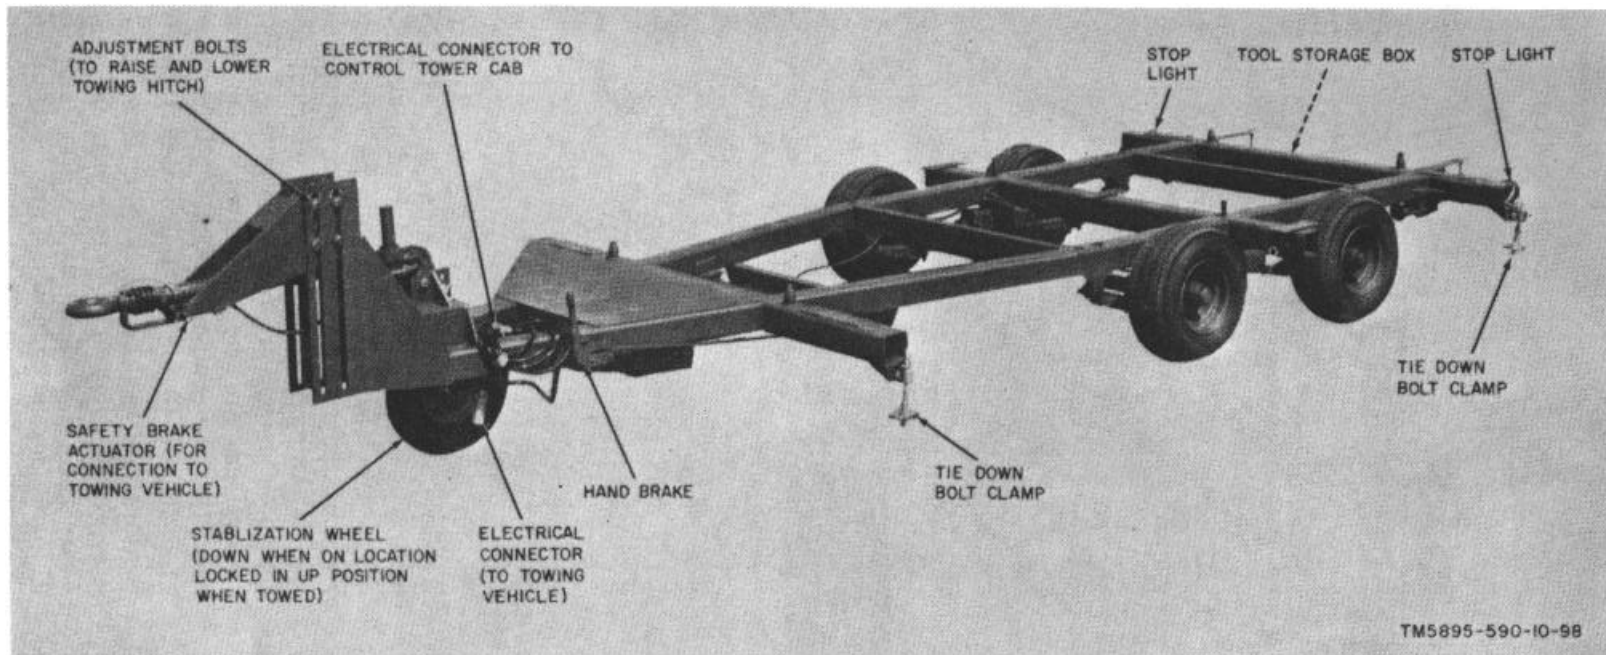

Figure 1-23. Trailer, overall view, AN/FSQ-75(V)3 only.
b. Trailer. The low-profile trailer (fig. 1-23), designed to mount the control tower cab, is equipped with stoplights, tiedown bolt clamps stoplights, tiedown bolt clamps, hydraulic-operated air brakes, a handbrake, a safety brake locking device, and electrical cabling which connects to the towing equipment and to the control tower cab. This, in turn, provides power for operating the stoplights on the trailer and the marker lights on the control tower cab. Small diameter (20 x 8.00) tires give the low-profile capability so that the overall height with the control tower cab mounted on the trailer will not exceed 108 inches (the maximum height which may be transported by air). The primary function of the trailer is to provide an easy method of onloading and offloading the control tower cab on trucks and cargo aircraft.